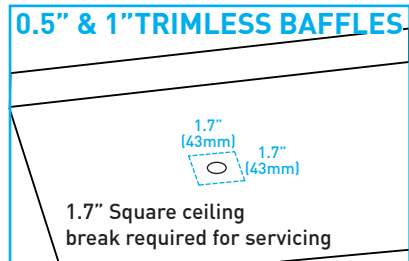

Fig.47
- Housing Based:** Attach LED installation tool by first inserting and twisting counter-clockwise to engage tool with LED module, then counter clockwise again to **REMOVE** module from housing. Carefully pull down to completely remove LED module. **(Fig.47)**